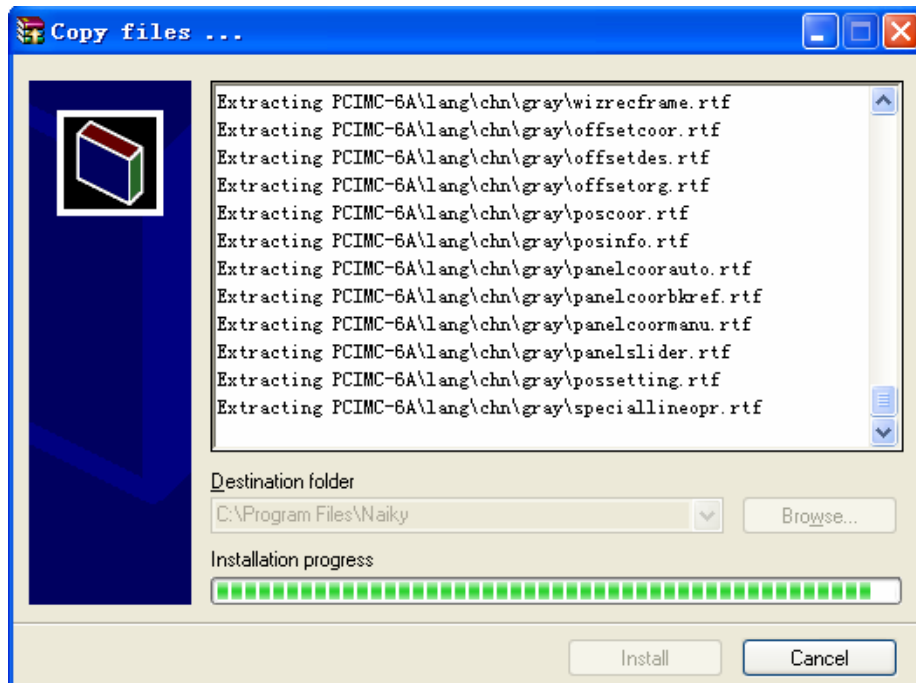
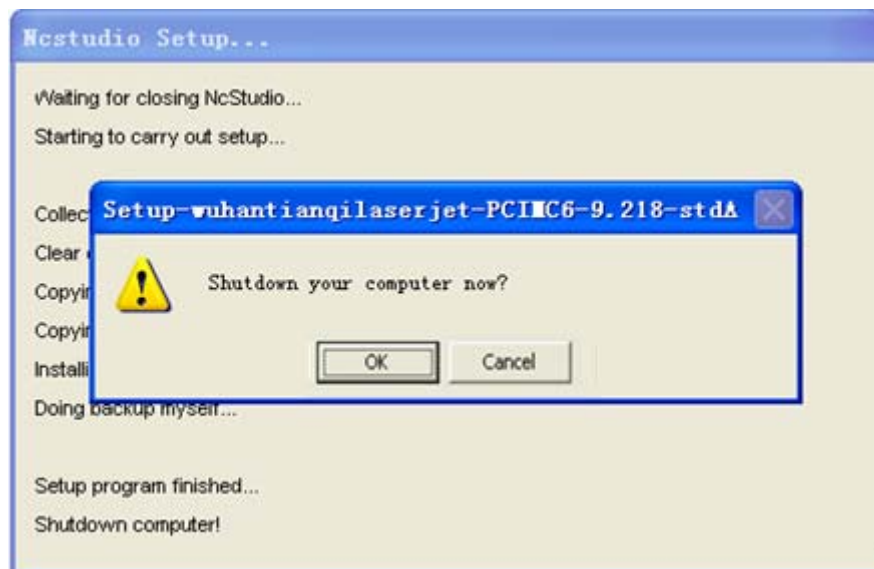

Fig. 2-4 Software installation interface
Fig. 2-5 Prompt whether to shutdown the computer (recommend: OK)
- 4) Click [OK]. Installation begins. NcStudio will be installed to the default directory, C:\Program Files\Naiky. Installation progress bar will show the installation speed. See Fig. 2-4. After installation, a prompt will ask the user whether to shut down the computer (We recommend closing the computer to facilitate the installation of the control card.) See Fig. 2-5.